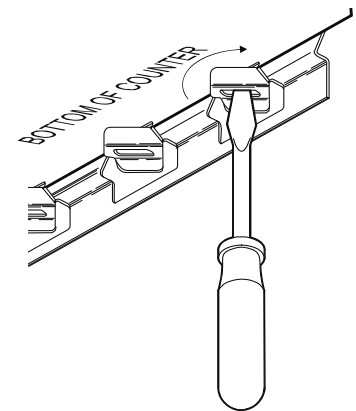

Fig. 3 Set the Wellsloks
- After installation, verify that the tabs on the Wellsloks are turned out to lock the broiler into the counter (see Fig. 3).